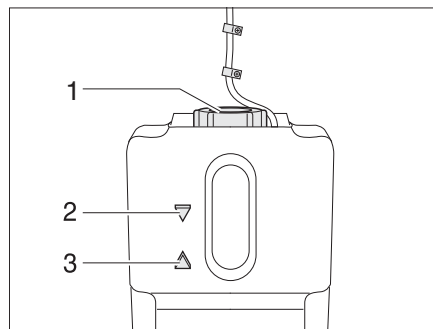

Fig. 308 Compensator reservoir hot-water heater
- Check if the fluid level is between the marks "MIN" (Fig. 308,3) and "MAX" (Fig. 308,2) on the compensator reservoir (Fig. 308).
- Open the rotary lid (Fig. 308,1) on the compensator reservoir.